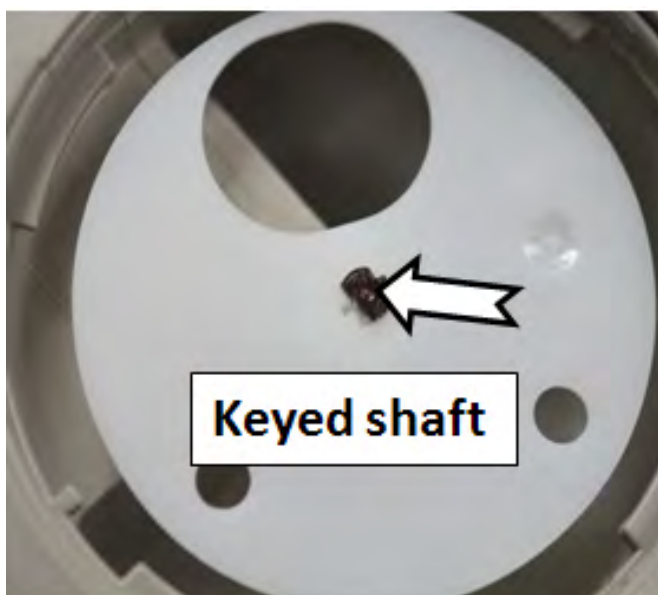

Figure 7
6. The diverter disc attaches to a keyed shaft, see figure 7.